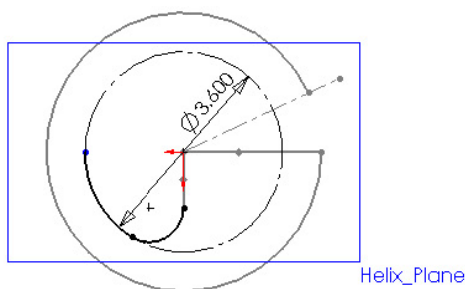
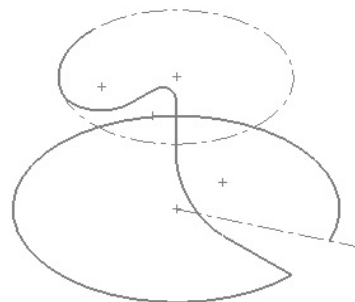

Figure 6 Developing the fourth sketch.
Figure 7 Fourth sketch's isometric view.
- Add two arcs as shown in Figure 6. First arc is tangent to Sketch3, second arc is tangent to first arc and its radius is equal to construction circle. Add proper relations to fully define this sketch. Figure 7 shows the same sketch viewed as isometric.